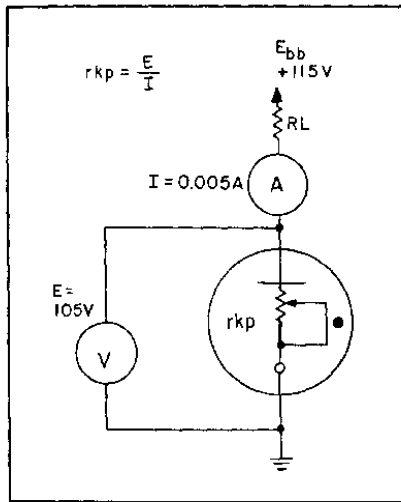

Figure 2A.—Cold-cathode tube operation.
- 2-30. If the source voltage in figure 2A is increased to 150 volts and the ammeter reads 20 milliamperes, what is the resistance (r_{kp}) of the tube?